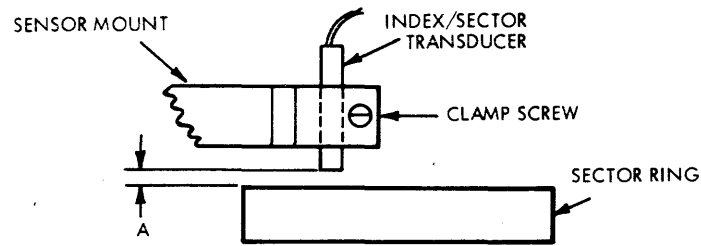

Figure 3-30. Fixed Disk Index/Sector Transducer Adjustment
4. Using plastic shim stock, check clearance A (figure 3-30). Clearance should be $0.25 + 0.076, -0.000$ mm ($0.010 + 0.003, -0.003, -0.000$ inches). If clearance is out of tolerance, loosen transducer clamp and slide transducer in or out to adjust for proper clearance.